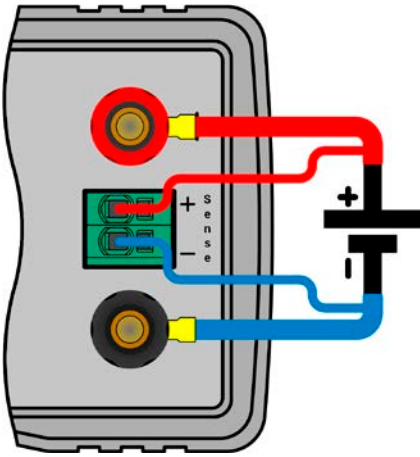

Figure 12 - Example for remote sensing wiring
- *Remote sensing is only effective during constant voltage operation (CV) and for other regulation modes the sense input should be disconnected, if possible, because connecting it generally increases the oscillation tendency.*
- *Sensing cables must be connected + to + and - to - at the source, otherwise the sense input of the device can be damaged. For an example see Figure 12 below.*